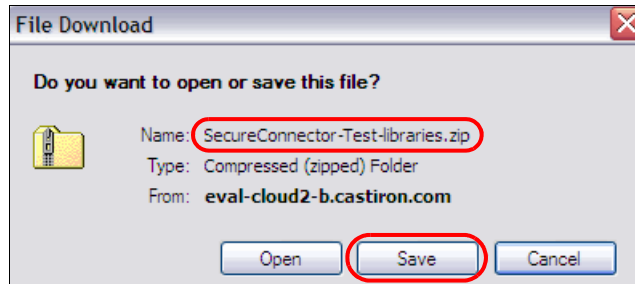

Figure 2-50 Cast Iron Live: Download libraries for the Secure Connector
2. Click **Download Libraries** to download an archive file containing the libraries. The file name depends on the environment (for the environment Test, it is named SecureConnector-Test-libraries.zip), as shown in Figure 2-50 on page 75.